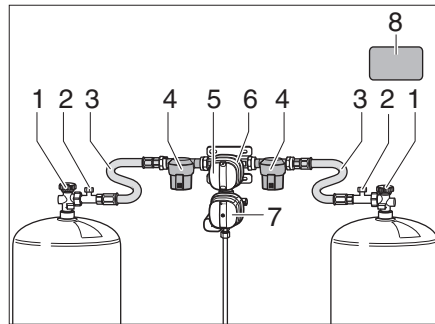
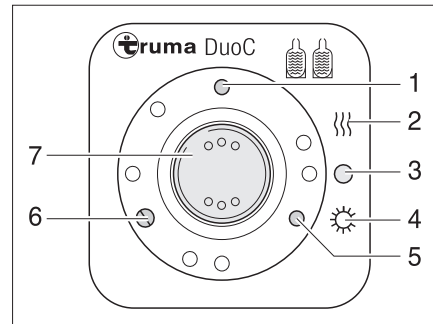
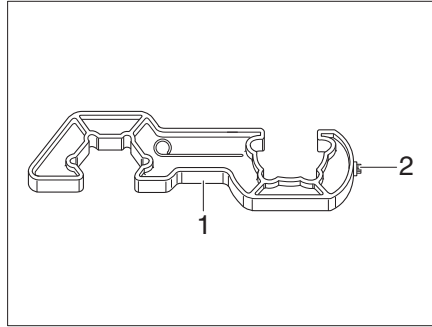
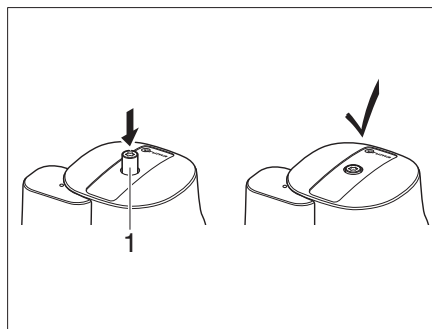

Fig. 229 DuoControl switching facility
Fig. 230 Operating unit
Fig. 232 Screw aid
Fig. 233 Crash sensor
The DuoControl switching facility consists of a switching valve (Fig. 229,6) and the operating unit (Fig. 230). The switching valve is mounted between the high-pressure hoses (Fig. 229, 3). The knob (Fig. 229,5) on the switching valve is used to select which of the gas bottles is to be used as a primary bottle and which is to be used as a reserve bottle.
The switching valve (Fig. 229,6) is equipped with the regulator defroster "EisEx". This prevents damage to the gas system during the winter months.
A gas filter (Fig. 229,4) that protects the gas system against oil and other contamination is located on each side before the switching valve.
Only the electrical functions can be switched at the operating unit (Fig. 230). The regulator taps (Fig. 229,1) on the gas bottles must be opened manually.
The switching valve provides a constant gas pressure, regardless of which gas bottle is being drawn upon. The two indicator lamps on the operating unit show the filling level of the primary bottle. The primary bottle is full when the green indicator lamp (Fig. 230,6) lights up. The primary bottle is empty when the red indicator lamp (Fig. 230,5) lights up. The gas is then supplied via the reserve bottle.
- Open the regulator taps (Fig. 229, 1) on the gas bottles.
- Use the knob (Fig. 229,5) on the switching valve (Fig. 229,6) to select the gas bottle which is to be the primary source of gas (primary bottle). Always turn the knob as far as it will go.
- Set the rocker switch (Fig. 230,7) to "O" (Fig. 230,3). The yellow indicator lamp (Fig. 230,1) goes out.
- Close the regulator tap (Fig. 229,1) on the gas bottles.
The indicator lamps on the operating unit (Fig. 230,5 and 6) indicate in the vehicle interior whether the primary bottle is ready for operation.
If the green indicator lamp (Fig. 230,6) goes out during operation and the red indicator lamp (Fig. 230,5) lights up, the gas bottle selected as the primary bottle is empty and has to be replaced. The reserve bottle continues supplying the gas appliances with gas.
- ▷ Use the enclosed screw aid (Fig. 232,1) to connect and disconnect the high-pressure hoses. It ensures the required tightening torque and prevents damage to the screw connection through using unsuitable tools.
- Close the regulator tap (Fig. 229, 1) on the empty gas bottle.
- Unscrew the high-pressure hose (Fig. 229,3) from the gas bottle using the screw aid (Fig. 232).
- Connect the full gas bottle to the high-pressure hose (Fig. 229,3).
- Open the regulator tap (Fig. 229, 1) on the gas bottle.
- Set the knob (Fig. 229, 5) on the switching valve (Fig. 229, 6) with half a turn, so that the newly replaced gas bottle will serve as a reserve bottle.
- Press the button (Fig. 229, 2) for the hose break guard at the high-pressure hose to activate it.
- If necessary, press the reset button (Fig. 233, 1) at the crash sensor.
- ▶ Observe the safety label (Fig. 229, 8) in the gas bottle compartment.
- Use the Torx T20 (Fig. 232,2) at the screw aid to press in the safety release knob (Fig. 233,1), turn it slightly clockwise and hold it for 5 seconds. The crash sensor is ready to operate when the safety release knob (Fig. 233,1) remains in the lowered position.
- After replacing the gas bottle press the green button (Fig. 229,2) at the high-pressure hose (Fig. 229,3) vigorously.